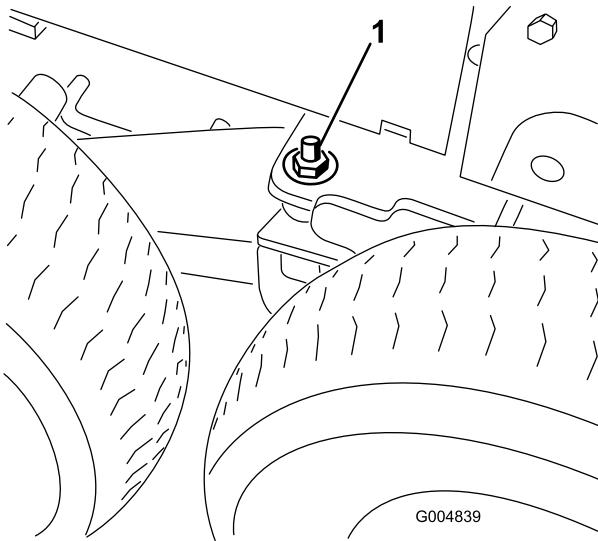

Figure 77
7. Remove the 1/2 inch locknut and flat washer from the left and right bogie pivot weldment to unlatch the pivot (Figure 77).
11. Lower the floor jack until the bogie pivot weldment moves enough so that the 1/2 inch flat washer and locknut can be installed on the stud and threaded finger tight on both sides of the machine (Figure 77).